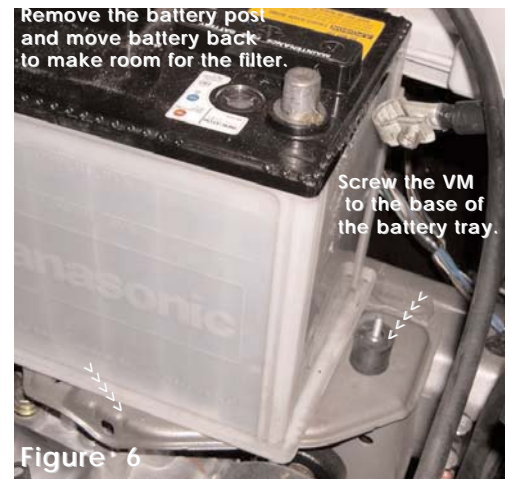

Figure 6
5. Remove the battery post and slide the battery back about an inch in order to make room for the filter when it is time to install. (See fig. 6)
6. Screw the last vibra-mount into the pre-tapped hole located on the base of the battery tray. (See fig. 6)